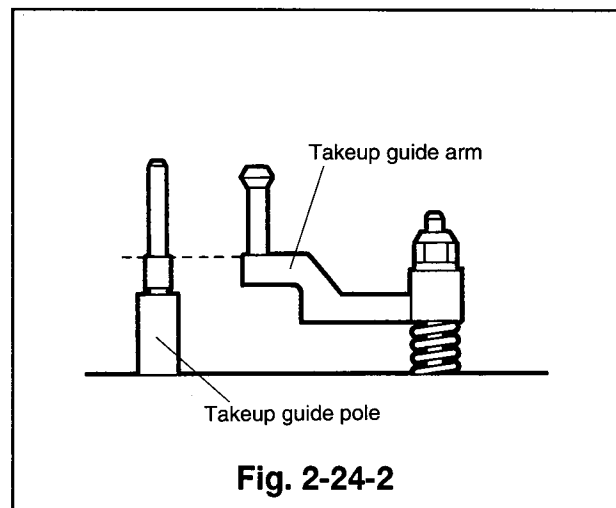

Fig. 2-24-2
- ① Hook one end of the takeup guide spring with the takeup guide arm, fix the takeup guide spring to the shaft.
- ② Apply grease(PG-641)[859D055O30] around the top of the new takeup guide arm (the surface which touches with the nut). Fix the takeup guide arm to the shaft, and secure it with the nut. (Set the takeup guide arm to the height shown in Fig. 2-24-2 temporarily.)